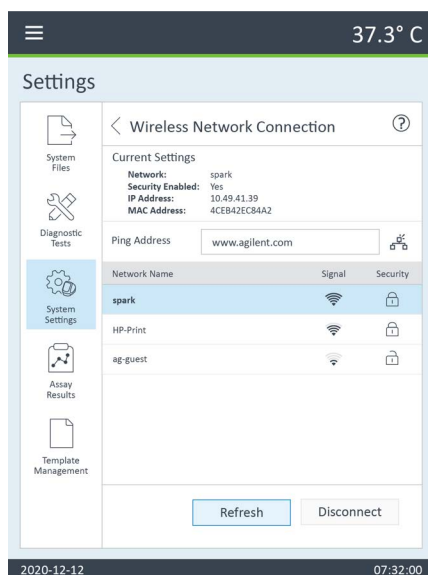

Figure 33. Example wireless network selection table
- 3 Click the right arrow (bottom right) once to access the Wireless Network Connection Settings screen shown in **Figure 33**.